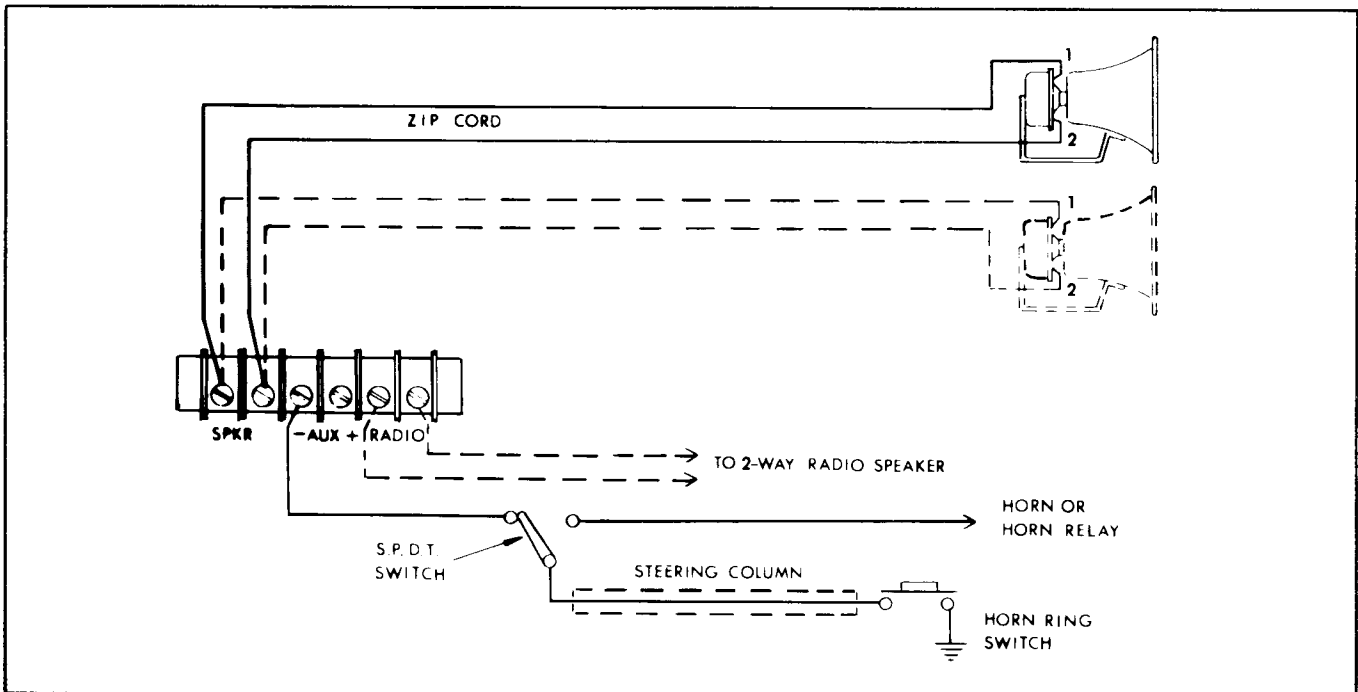
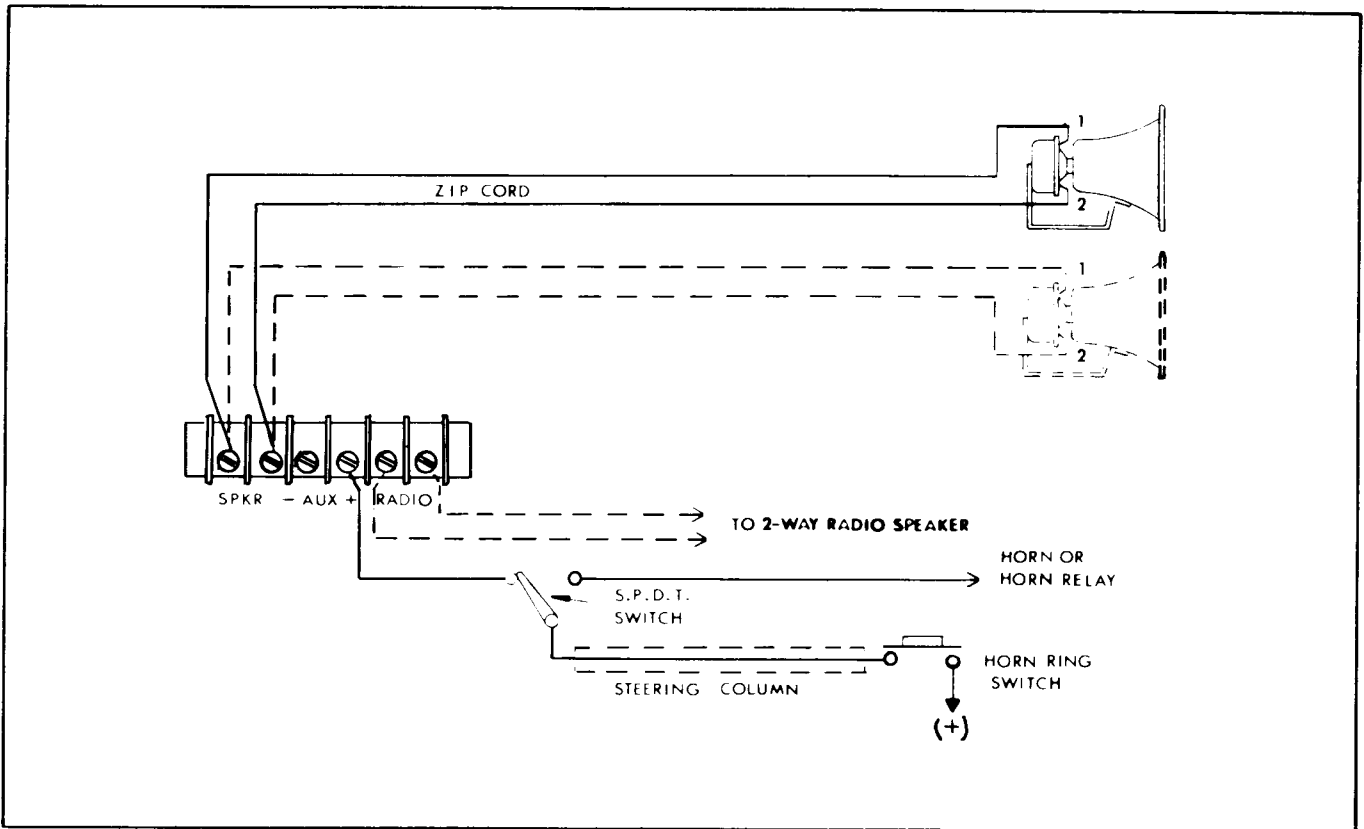

Figure 6. Terminal Board Connections — Horn Ring Control (negative ground vehicle with grounded horn ring).
Figure 7. Terminal Board Connections - Horn Ring Control (positive ground vehicle with grounded horn ring or negative ground vehicle with ungrounded horn ring).
Included with the electronic siren is a SPDT switch (toggle switch) which, when properly installed, allows the user to activate the siren by depressing the horn button. When installing the horn switch in a vehicle with a negative ground system with a grounded horn ring, connect as shown in figure 6. See figure 7 when installing the horn switch in a positive ground vehicle with a grounded horn ring, or in a negative ground vehicle with an ungrounded horn ring. Locate a convenient mounting position for the toggle switch (supplied) and proceed as follows:
C. Connect a length of insulated wire from the other terminal of the toggle switch to the AUX. -terminal at the rear of the siren, if the vehicle has a negative ground system with a grounded horn ring (see figure 6). When the vehicle has a positive ground system with a grounded horn ring or a negative ground system with an ungrounded horn ring, connect this terminal of the toggle switch to the AUX. + terminal at the rear of the siren (see figure 7).
D. Connect the center terminal of the toggle switch to the horn ring switch as shown in figure 6 or 7.